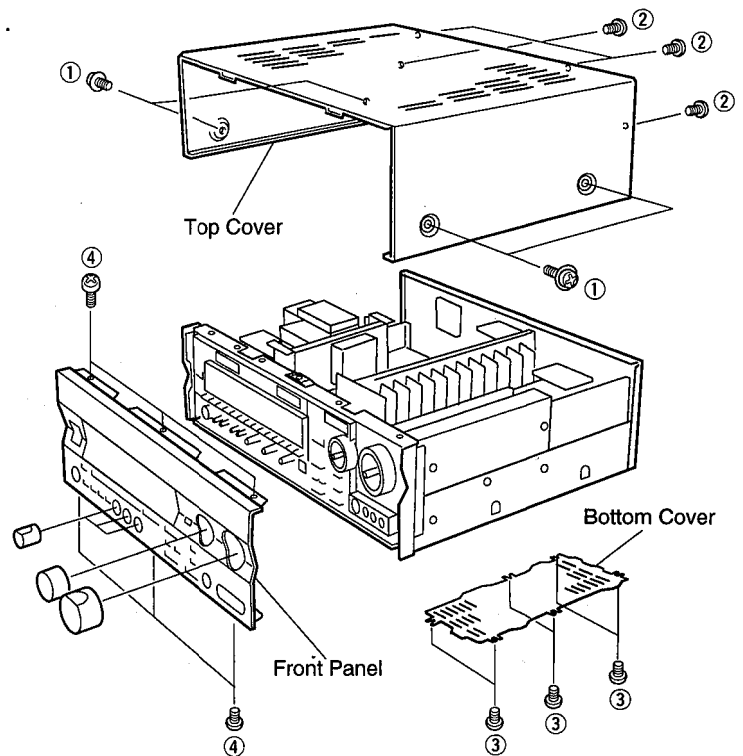

Fig. 1
- ⑪ P. C. B. DSP
- ⑫ P. C. B. OPERATION (2)
- ⑬ P. C. B. OPERATION (6)
- ⑭ P. C. B. INPUT (1)
- ⑮ P. C. B. OPERATION (3)
- ⑯ P. C. B. MAIN (1)
- ⑰ P. C. B. MAIN (4)
- ⑱ P. C. B. MAIN (3)
a. Remove 4 screws (①), and 4 screws (②) in Fig. 1.
a. Remove 6 screws (③) in Fig. 1.
b. Remove 6 screws (④) in Fig. 1.